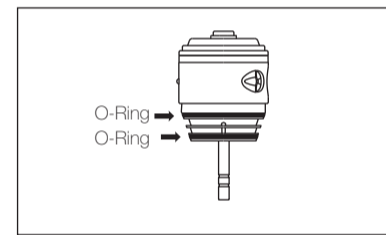

Fig. 8
- Make sure that two O-rings (Fig. 8) are in place on the Cartridge.